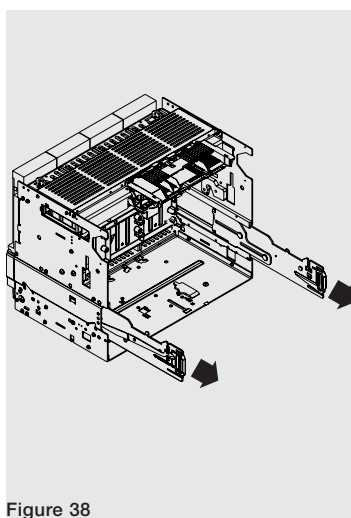

Figure 38
3. Extract the guides of the fixed part using the appropriate levers. See Figure 38.